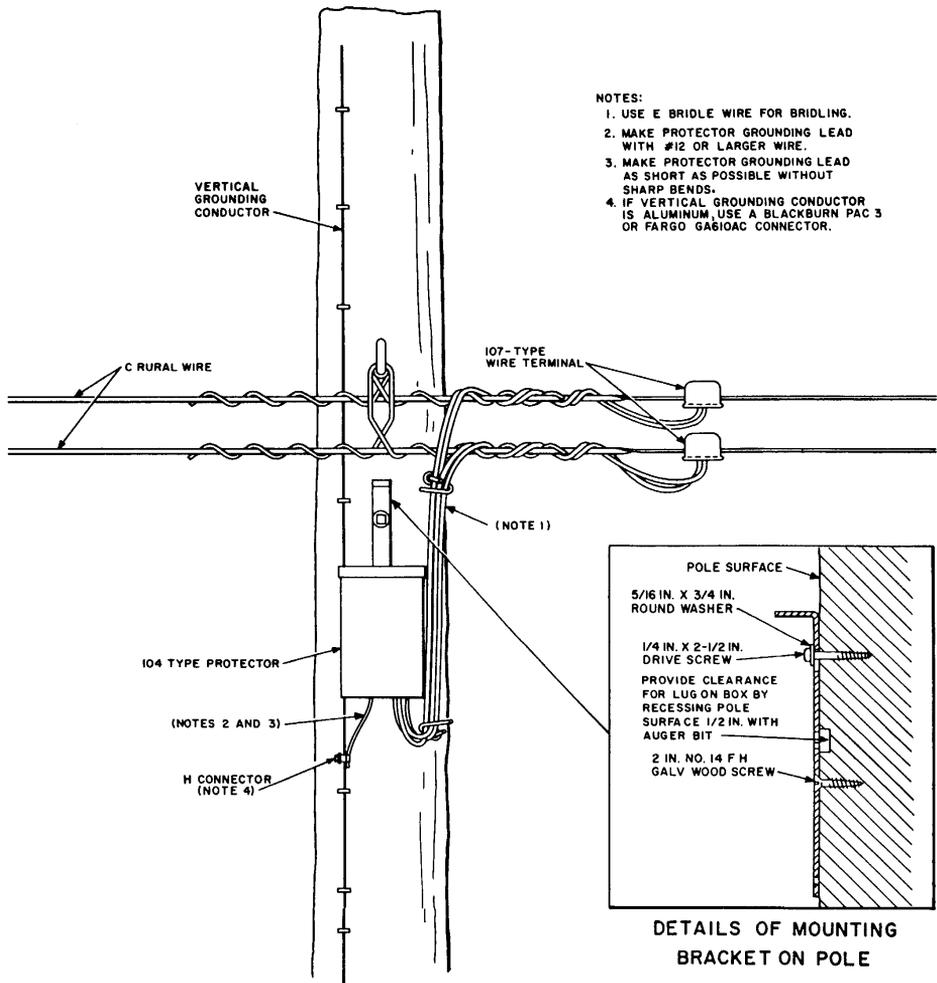

Fig. 3—104-Type Protector Mounted on C Rural Wire
- (1) Open the cover (paragraph 2.04).
- (2) Remove the round-head machine screw located below the protector mounting unit inside the housing.
- (3) Raise the housing a short distance, thus releasing the knob in the back of the housing from the keyhole slot in the mounting bracket.
4.02 The method of mounting a 104-type protector and wiring it to C rural wire is shown in Fig. 3. Section 462-525-150 describes the method of mounting and wiring the 107-type wire terminal. Use E bri-